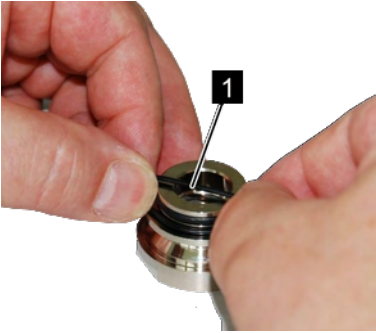
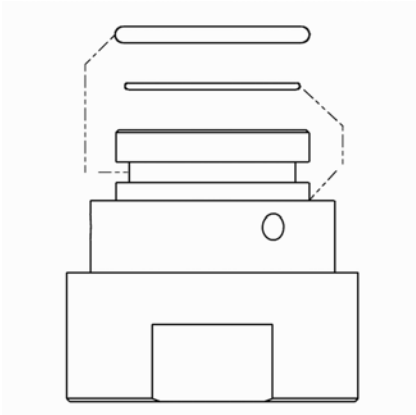

Fig. 41: O-ring (glass buffer)
Fig. 42: Position of O-rings
- 1.** Carefully install the O-ring (seal) onto the process connection (Fig. 40/1) so that it rests in the upper O-ring groove of the process connection (Fig. 42). When doing so, be careful not to overstretch the O-ring
2. Carefully seat the O-ring (glass buffer) onto the process connection (Fig. 41/1) so that it is properly seated on the lower portion of the process connection (Fig. 42). When doing so, be careful not to overstretch the O-ring